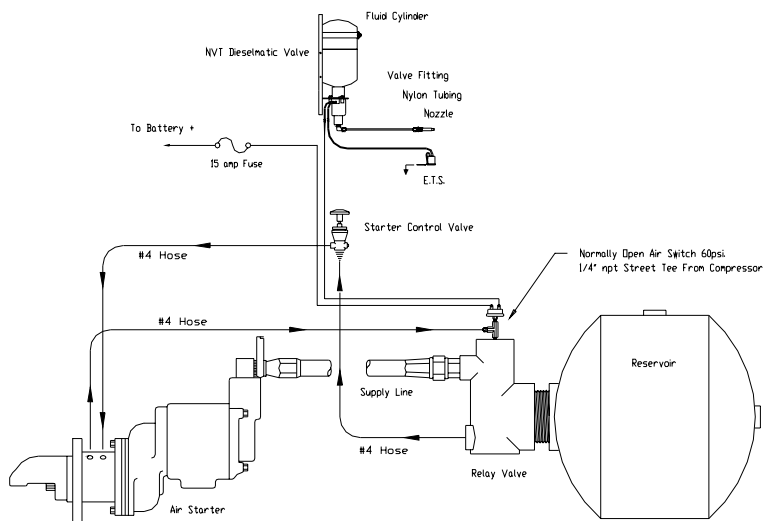

FIGURE 10
6. The valve assembly should be checked for proper operation before the ETS Switch is wired into the circuit. To do this, disconnect the battery and complete the wiring circuit as shown in Figure 10. **However, connect the colored lead directly to a good ground.** Reconnect the battery.
8. After this check is made and proper valve operation is verified, disconnect the battery and complete the wiring circuit for the ETS Switch as shown in Figure 10. Be sure all wires are routed away from heat, moving parts, sharp edges, etc. If possible, route wiring with existing harnesses. Reconnect the battery.
**NOTE:** To check system for proper operation, the NORMAL Engine Temperature Sensor (ETS) must be below 40°F (4°C), or be bypassed by connecting the valve's colored lead directly to a good ground. After checking, be sure to reconnect the colored lead in accordance with Figure 10, 11, or 12.
- d. Test valve by removing fluid cylinder and momentarily engaging cranking motor. The valve plunger should move up and remain up while the cranking motor is engaged. If valve operates, proceed to (2)f.